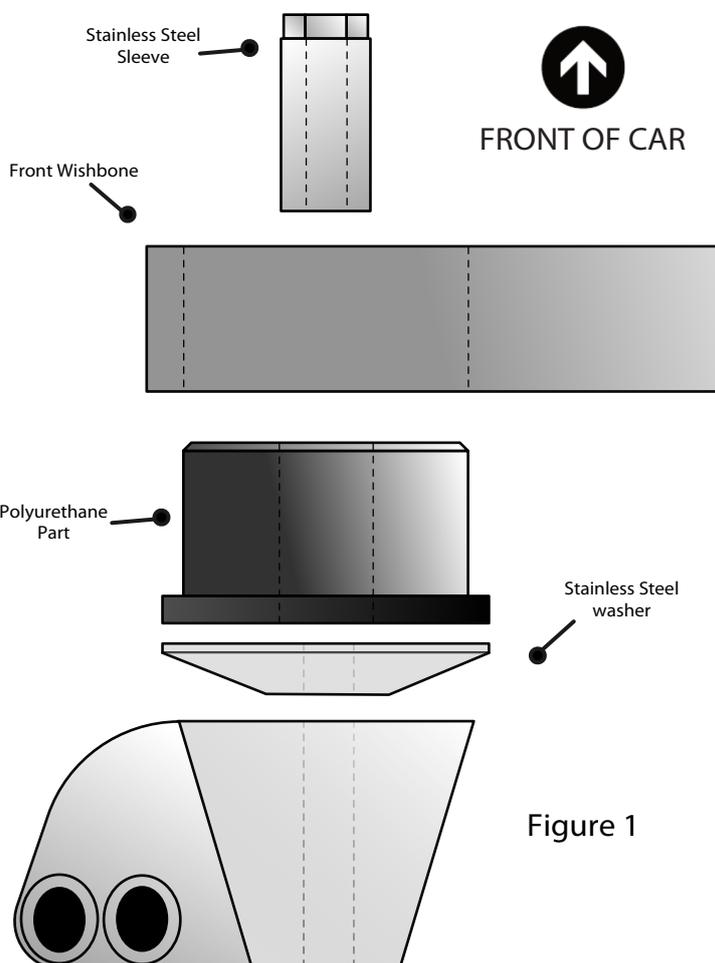

Figure 1
3. Insert the polyurethane bush into the wishbone from the upward direction, ensuring it is positioned as illustrated in Figure 1. Press the bush fully into place.